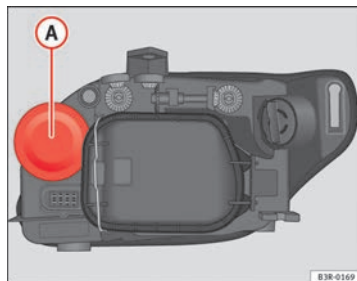

Fig. 205 Turn signal
- Pull the rubber cap ⇒ Fig. 205 to remove it.